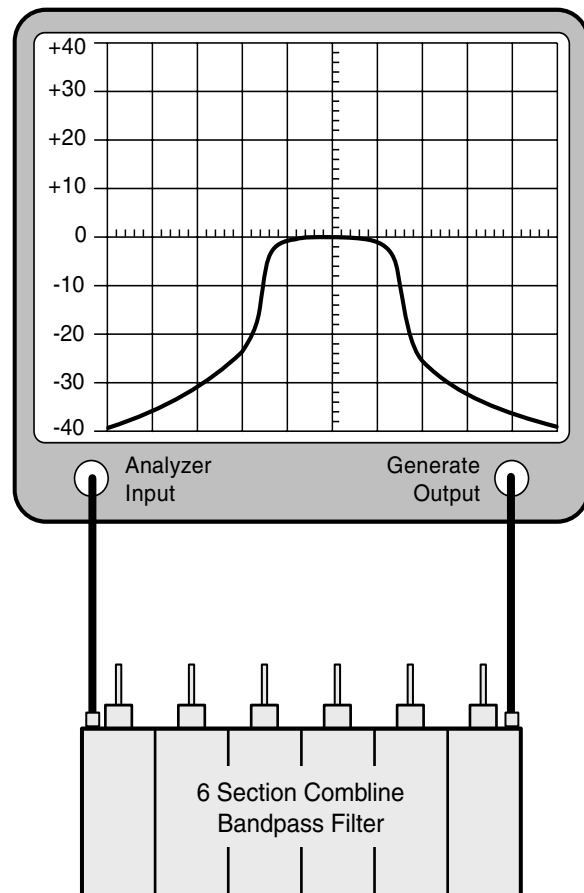
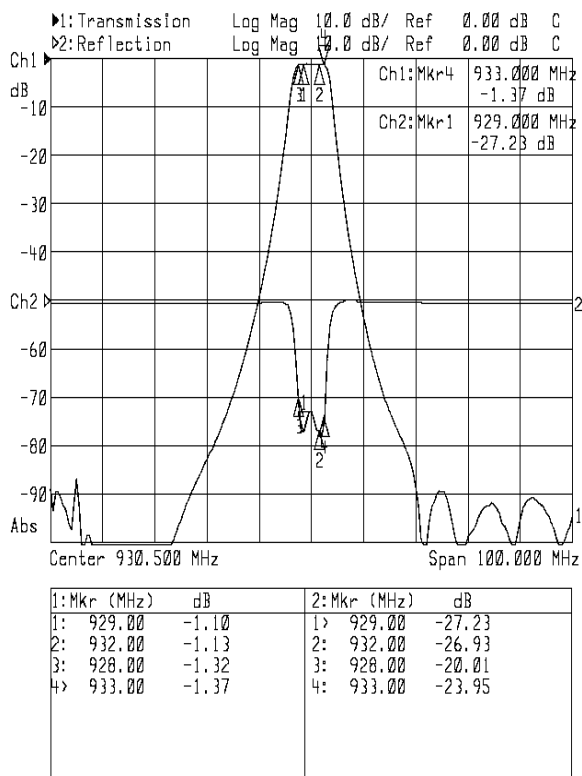

Figure 1: Tuning a combine filter.
Figure 2A: Preselector response curve shown at 10 MHz per/division.
familiar with the use of the test equipment. Figures 1 and 3 illustrate the use of an IFR A-7550 spectrum analyzer/tracking generator combination for filter tuning. Figures 2A and 2B show the preselector response curves displayed on a network analyzer. Listed below is a typical combination of equipment:
- 1) Connect the test equipment to the filter assembly as shown in figure 1.
shown in figures 2A (10 MHz per/division) and 2B (2 MHz per division).